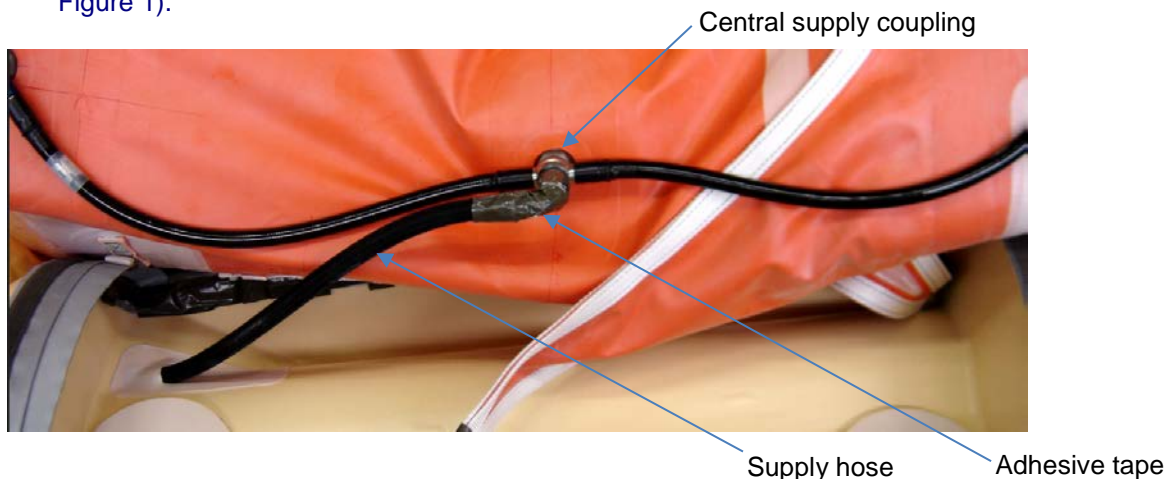

Figure 1 – Remove the adhesive tape
- (1) Locate the position of the central supply coupling on the float bag.
- (2) Remove and discard the adhesive tape that surrounds the supply hose connection (refer to Figure 1).